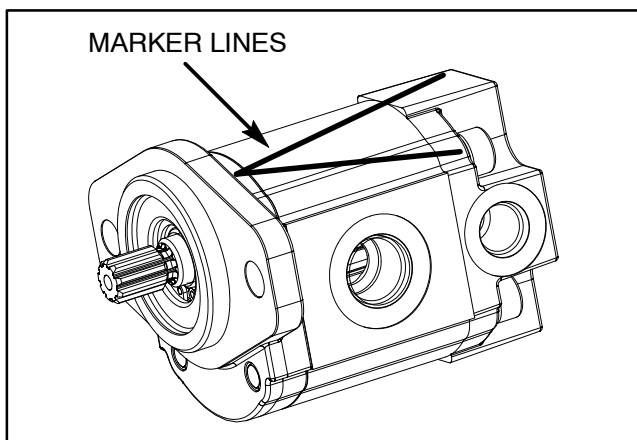

Figure 124
2. Use a marker to make a "V" across the front plate, body and back plate for assembly purposes (Fig. 124).
4. Loosen four (4) socket head screws that secure the back plate.